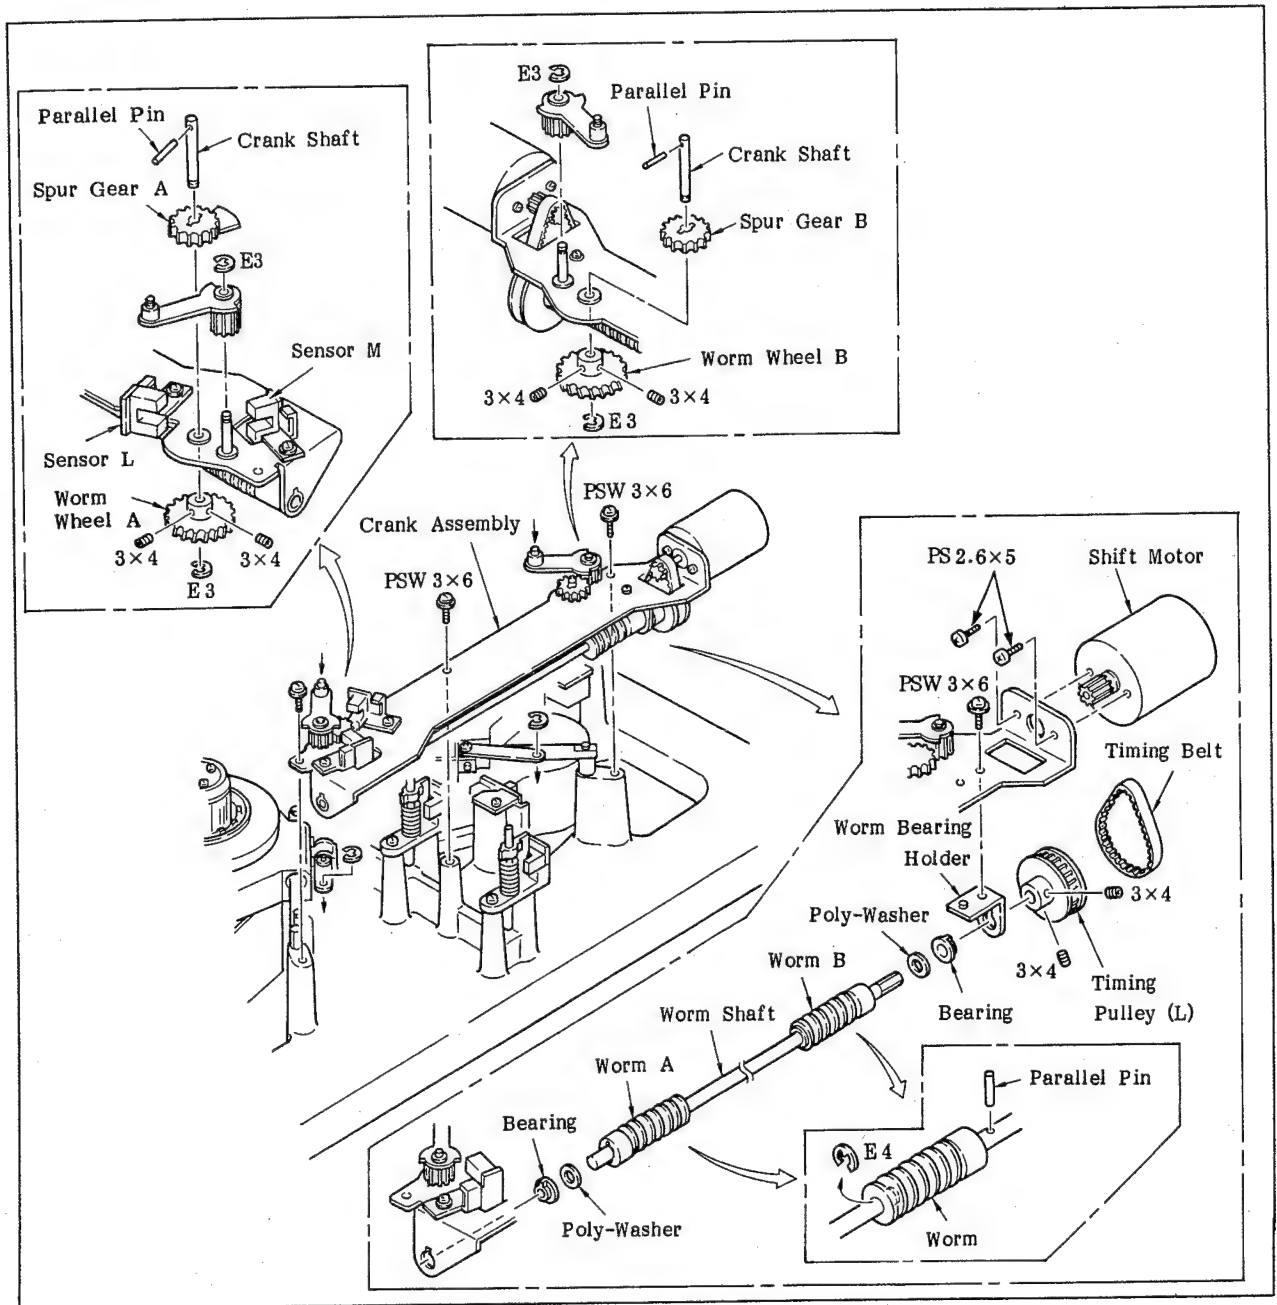
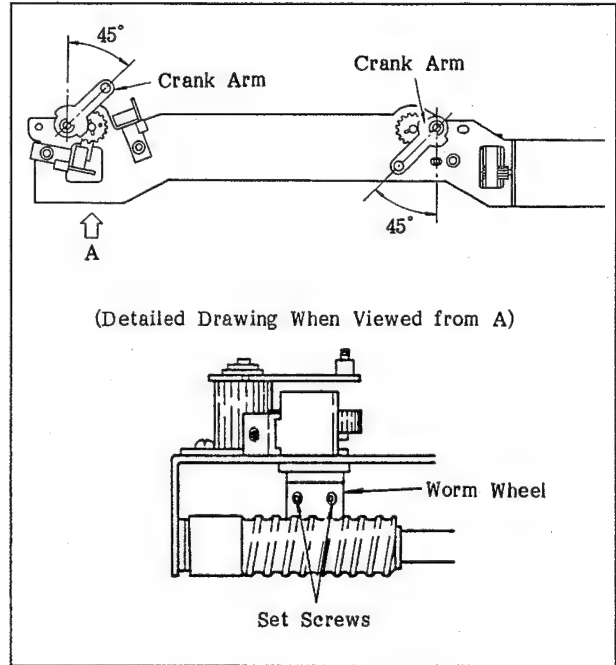

Fig. 6-36 Replacing the Reel Motor Shift Components
Fig. 6-44 Replacing the Worm
- A. Refer to Figure 6-36 concerning the replacement of the reel motor shift components. They can be easily replaced. This section will describe the procedures for making the adjustments after replacement.
- A. When replacing the spur gear with a new one, also replace the crankshaft on which the gear is mounted, so that the phase can be matched accurately. (Refer to Figure 6-36.)
2. Remove the crank assembly by referring to Figure 6-36.
6. Mount the crank assembly on the machine by referring to Figure 6-36.
3. Remove the timing belt, shift motor, and timing pulley (L) in that order.
5. Turn the S-side and T-side crank arms into the directions shown in Figure 6-44. Then, assemble the worm, worm shaft, worm bearing holder, and poly-washer bearing.
6. Insert the timing pulley (L) so that the D cut surfaces of the worm shaft match the two tap holes of the timing pulley. Then, insert a 0.5 mm thickness gauge between the bearing and timing pulley (L) and fasten the timing pulley by securing with two set screws while pushing the timing pulley (L) into the bearing.